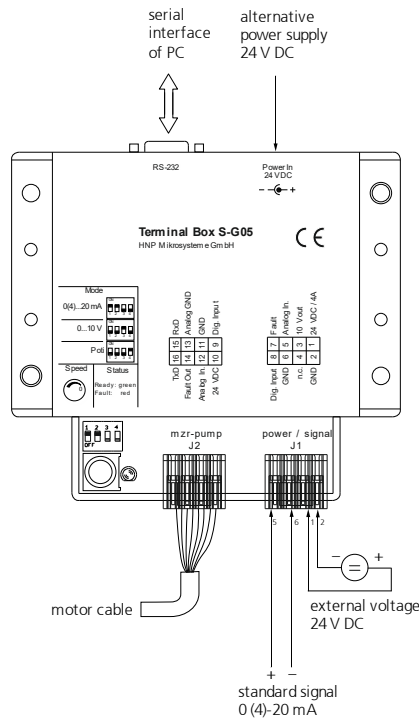

figure 16
4. Connect the external current source to the screw clamps »AnalogIn« and »GND« to the S-G05. (see figure 16).